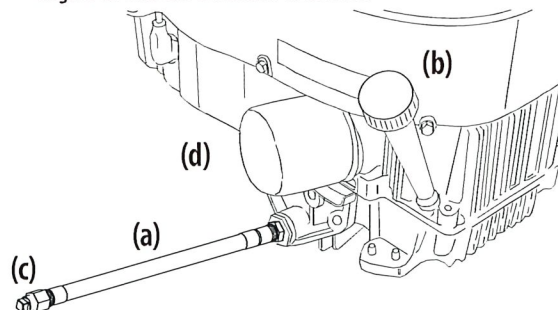

Figure 25
1. Locate the oil drain hose (a) on the side of the engine. See Figure 25.
2. Place an appropriate oil collection container with at least a 2.5 quart (2.37 liter) capacity below the opening of the oil drain hose, to collect the used oil. Remove the oil fill cap/dipstick (b) from the oil fill tube. See Figure 25.
3. While holding the free end of the oil drain hose over the oil collection container, unscrew the square head hose plug (c) from the end of the oil drain hose. See Figure 25. Drain the engine oil into the collection container.
5. Remove the oil filter (d) and drain into the collection container. See Figure 25.
6. Replace the oil filter (d) and refill the engine with new oil as instructed in the Engine Operator's Manual. See Figure 25.